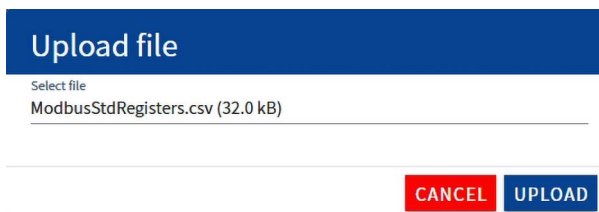

Fig. 112: Upload file window
- ➔ The selected file is shown in the **Upload file** window (see fig. 112)